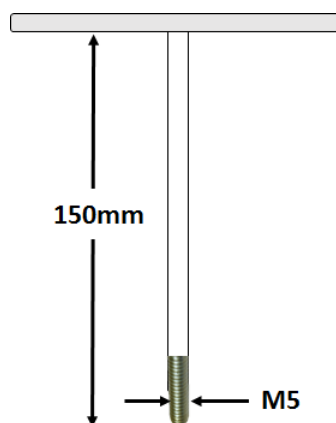

Figure 44: Special Tool 1
3. Special Tool 1 (Ref. Fig 44)